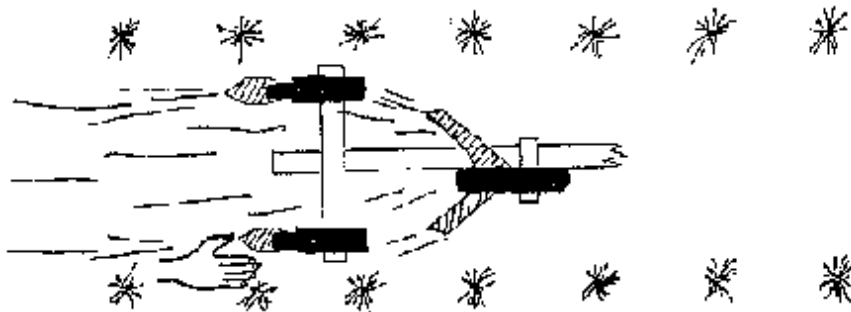

fig 9 : When weeding crops, the distance between the tines and the plants rows should be as wide as your palm
- **The tine-weeder/ho** (*fig. 8*): is used to control weeds, lifting the roots break the soil surface to improve the flow of air and water, improves yields. the working depth is 2-5cm. The working width is about 40 cm (*fig. 9*). Weeding crops occurs several times during production.